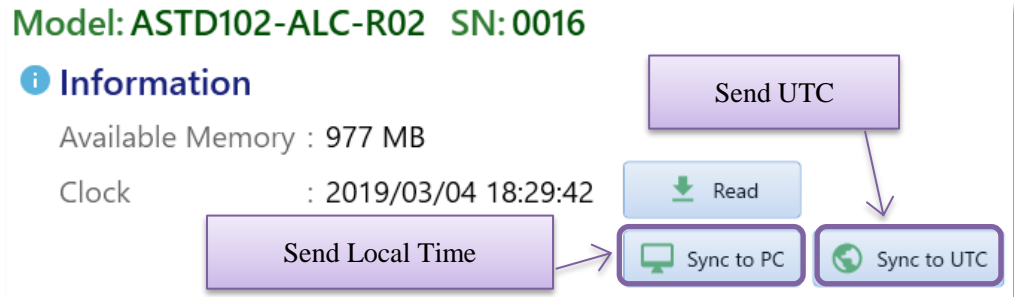

Figure 6.9 Clock setup
- (1) Click on [Sync to PC] button if you wish to synchronize to the local time on your PC, and click on [Sync to UTC] button if you wish to set your clock at UTC time. (Figure 6.9)